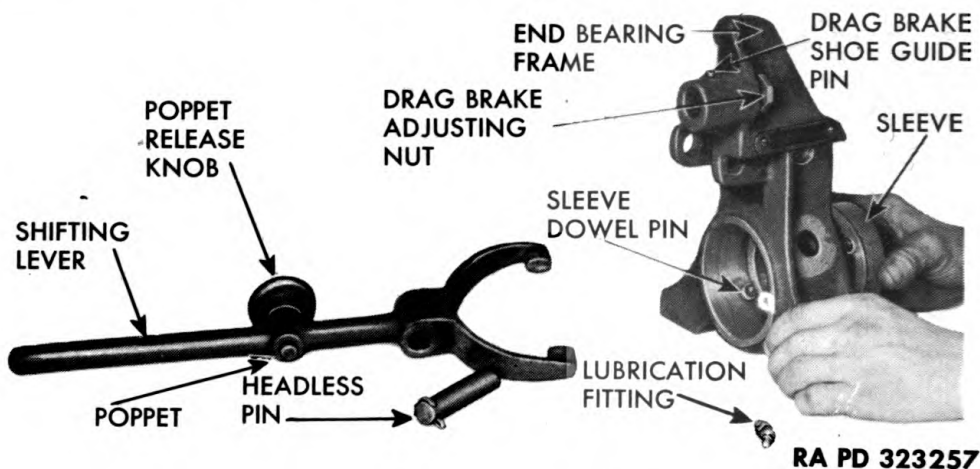

Figure 264 — Disassembling End Bearing Frame Assembly
d. **Disassemble End Bearing Frame Assembly** (fig. 264). Remove cotter pin and headless pin attaching shifting lever to end bear-
h. Assemble End Bearing Frame Assembly (fig. 264). Insert sleeve assembly, with sleeve bushing pressed into place, into end bearing frame. Aline slot in sleeve with dowel in frame. Screw lubrication fitting through hole in end bearing frame into sleeve. Install shifting lever to end bearing frame by installing one headless pin and cotter pin. Insert spring and drag brake into hole provided in end bearing frame, and aline slot in drag brake shoe with dowel pin in end bearing frame.